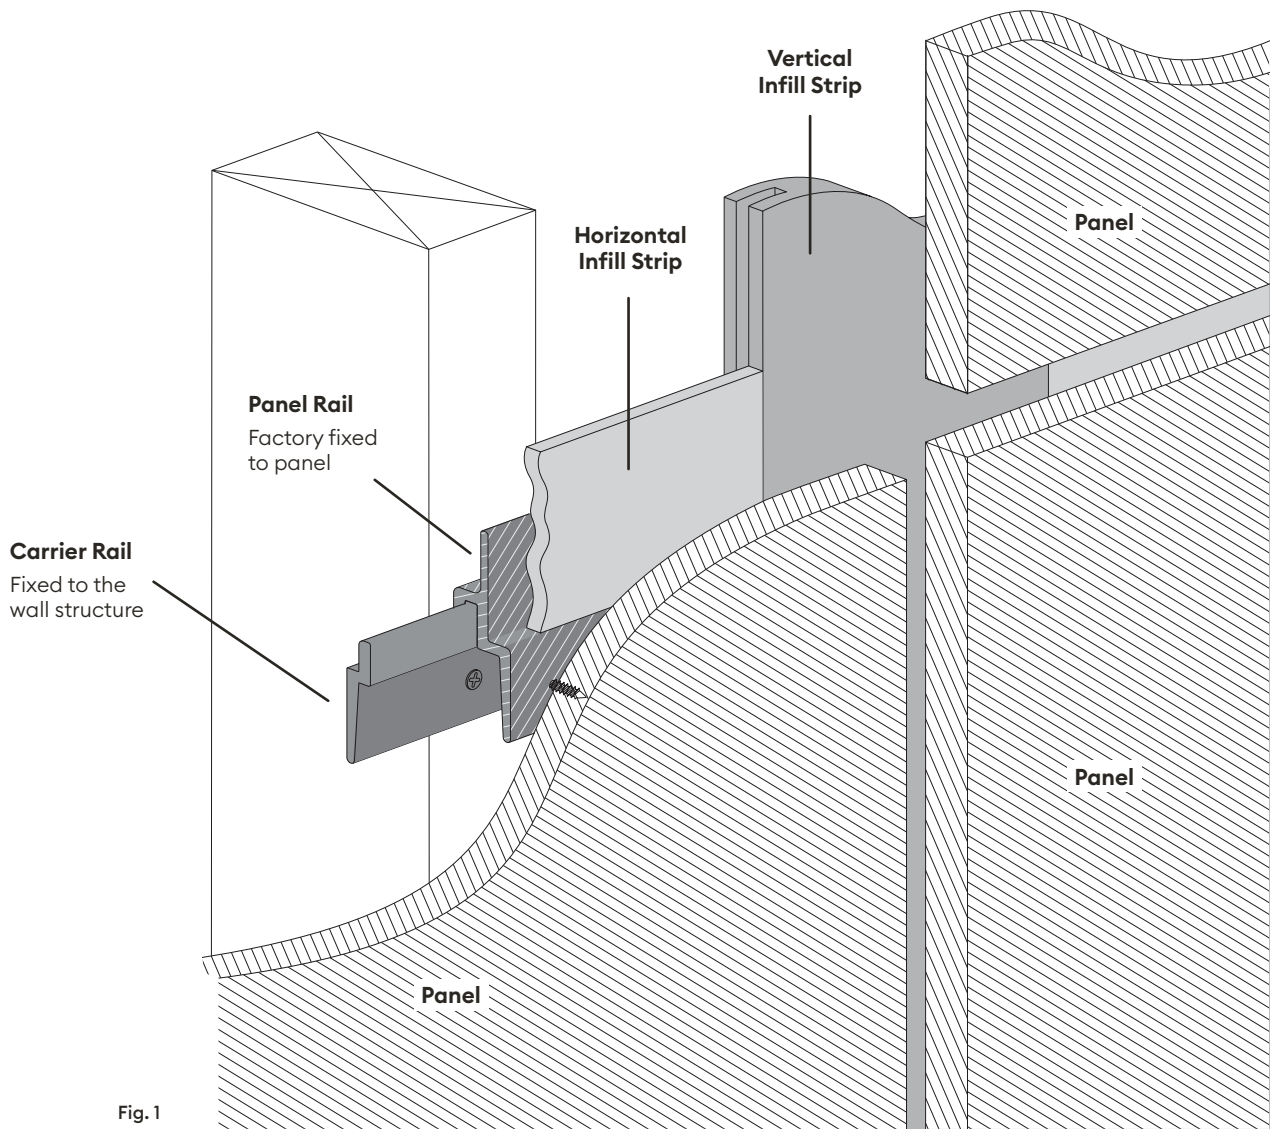

Fig. 1
5. Cut Vertical Infill Strip AXV09 to the height of panel and insert between AMC061 Carrier Rail and Panel (see Fig. 1). Press fully home to locate edge rebate over AMC061 infill support.